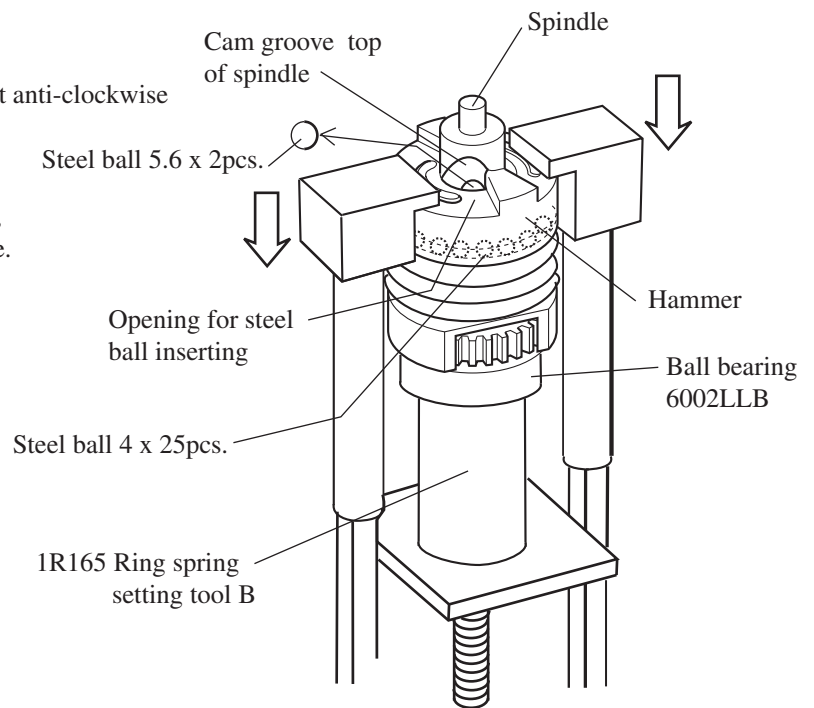

Fig. 5
- (2) Adjust the opening for steel ball inserting, to the cam groove top of spindle as illustrated in Fig. 5.
- (3) Take off 2 steel balls 5.6 with magnetic bar or tweezers from spindle.
- (4) Loosen the handle of 1R045 turning it anti-clockwise and remove hammer from spindle.
- (5) When assembling, adjust the "opening for steel ball inserting", to the "cam groove top" of spindle and insert steel ball 4 into hammer as illustrated in Fig. 5.